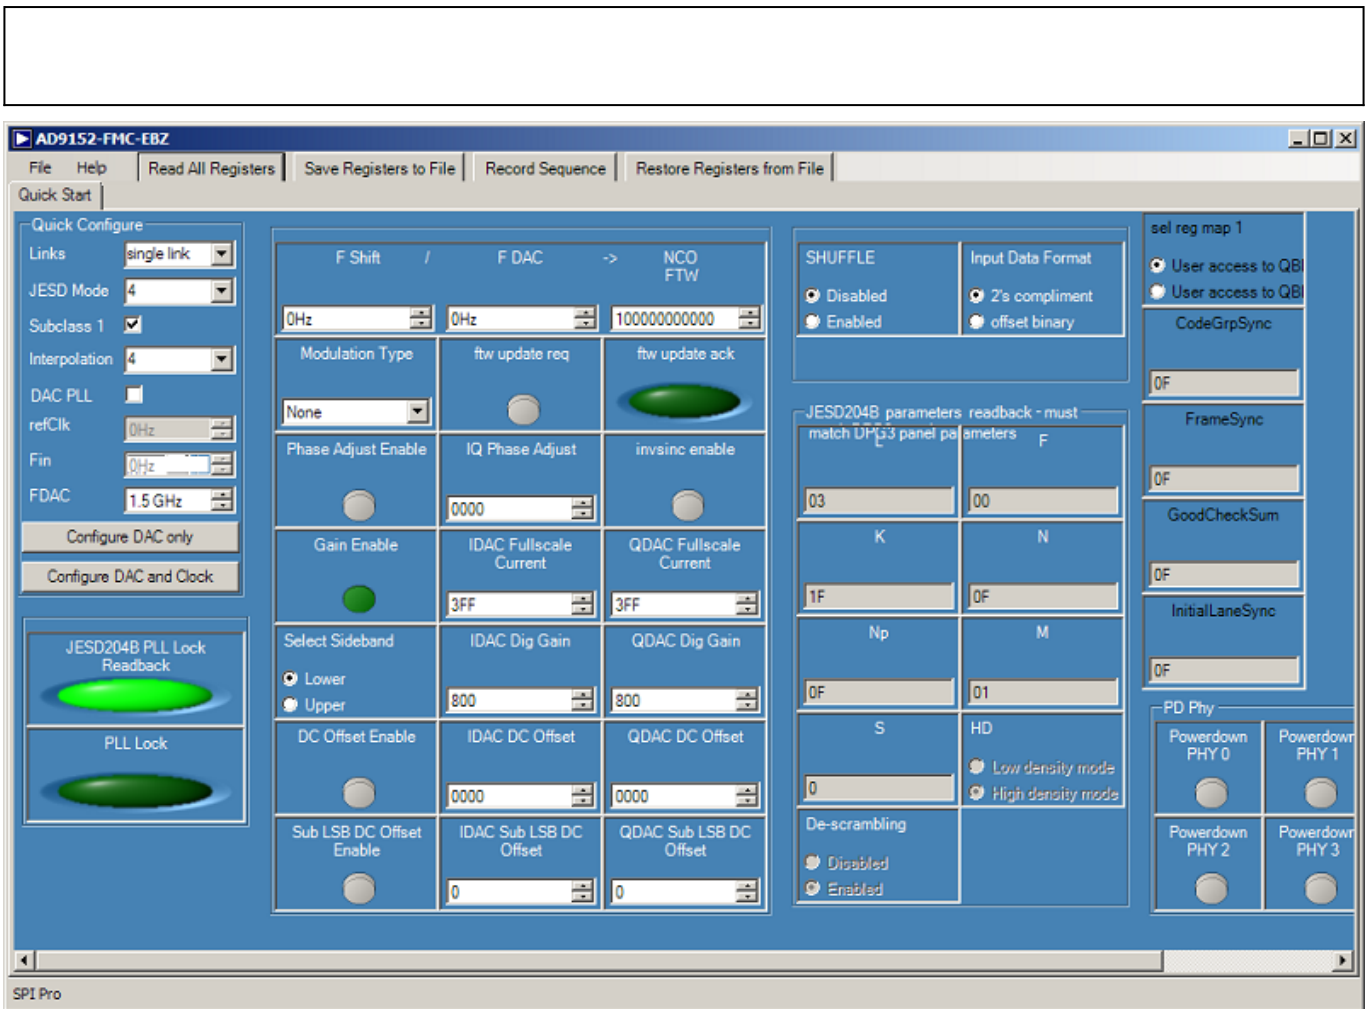

Figure 4. Fully Configured SPIPro Display
- On your lab computer, open the SPIPro application (Start > All Programs > Analog Devices > AD9152 > SPIPro). You will see the GUI shown in Figure 4 come up.